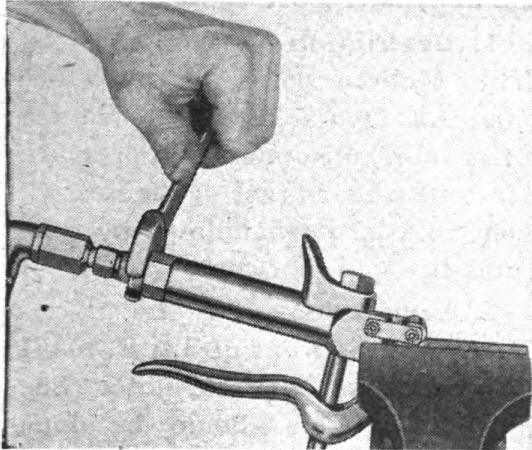

Figure 57
(1) Loosen lock nut (See Figure 57), but do not disconnect hose from the control valve.
(3) Tighten lock nut (See Figure 57). Hold adjustment screw in place while tightening lock nut.